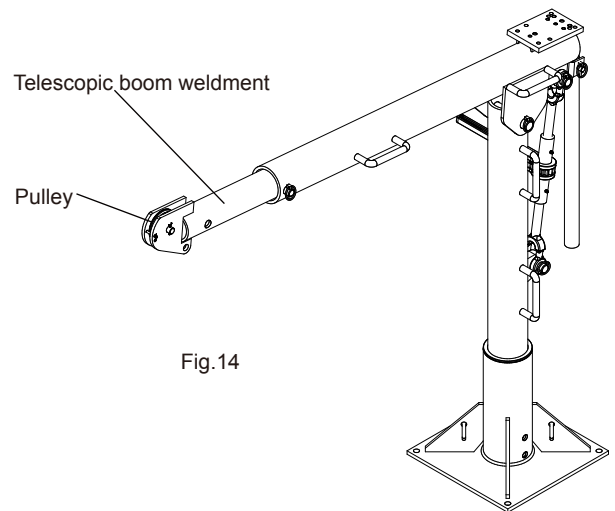

Fig.14
6. Slide the telescopic boom(#12-E1000; #13-E2000) into the upper bracket weldment(#10-E1000; #9-E2000) and secure in place with clevis pin lynch pin provided fig.14.